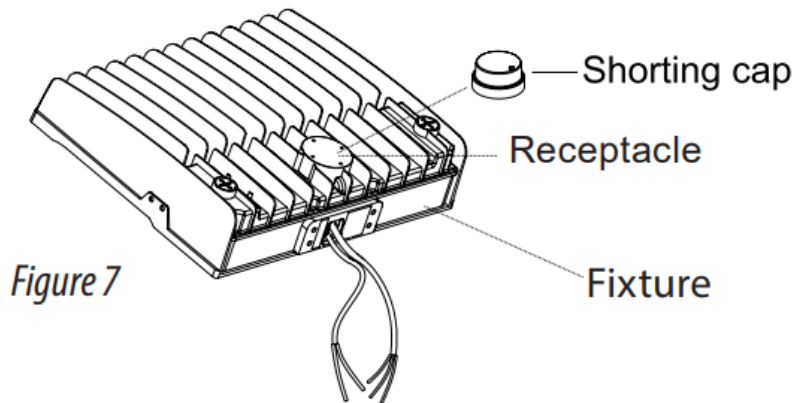

Figure 7
2. Unless an optional Photocell device (ordered separately) is to be installed, a shorting cap should be installed on the back of the light. (Figure 7)